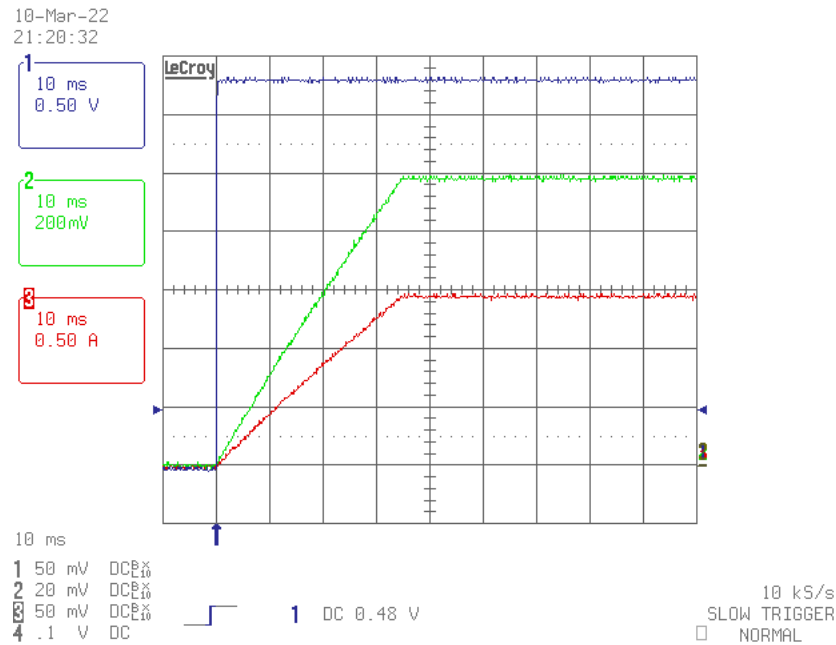

Figure 2-1. TPS7A74EVM-068 Turn-On
Alternatively, by connecting an external function generator to TP1 (EN) and a nearby GND post (J17), the user can enable or disable the TPS7A74 LDO after VIN is applied. Figure 2-1 illustrates the result of the TPS7A74EVM-068 during turn-on. The blue trace is the enable voltage, the green trace is the output voltage, and the red trace is the load current.